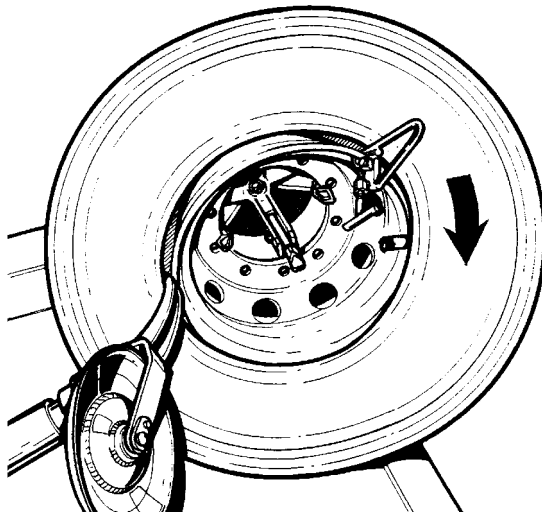

Fig.35
4. Re-attach the mounting clamp to the rim flange with the valve forward of the mounting clamp (fig.35).